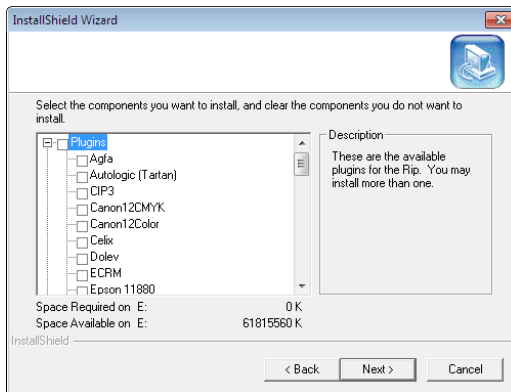

Figure 2: DVD Installer
- If you are installing from the Plug-in from the Navigator DVD, you will see a plug-in selection window similar to Figure 2. Select the plug-in(s) by clicking the corresponding check boxes and then click *Next*. Then follow the instructions for entering passwords (Figure 5) onwards.